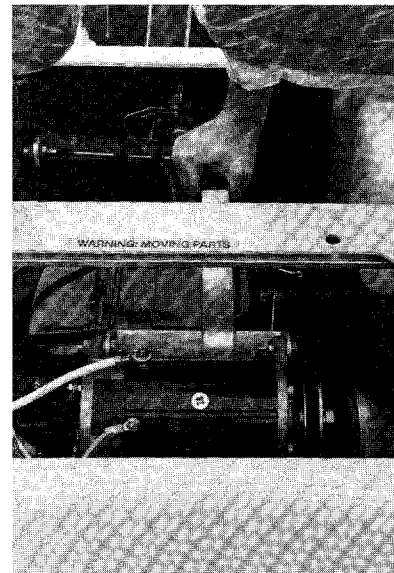

Figure 5-33
2. Install belt and lower mounting/adjusting bolt (24) washers (25, 31 and 32) and nut (33).
3. Adjust tension on starter-generator belt to obtain $\frac{1}{8}$ " deflection at the mid point of the pulleys with a 6 lb. load. Tighten lower mounting nut to 12 ft.-lbs. torque (**Figure 5-33**).
1. Install belt on starter-generator. Adjust tension on starter-generator belt to obtain $\frac{1}{8}$ in. deflection at the mid point of the pulleys using 6 lbs. of pressure. Tighten nuts to 12 ft.-lbs. torque (**Figure 5-33**).